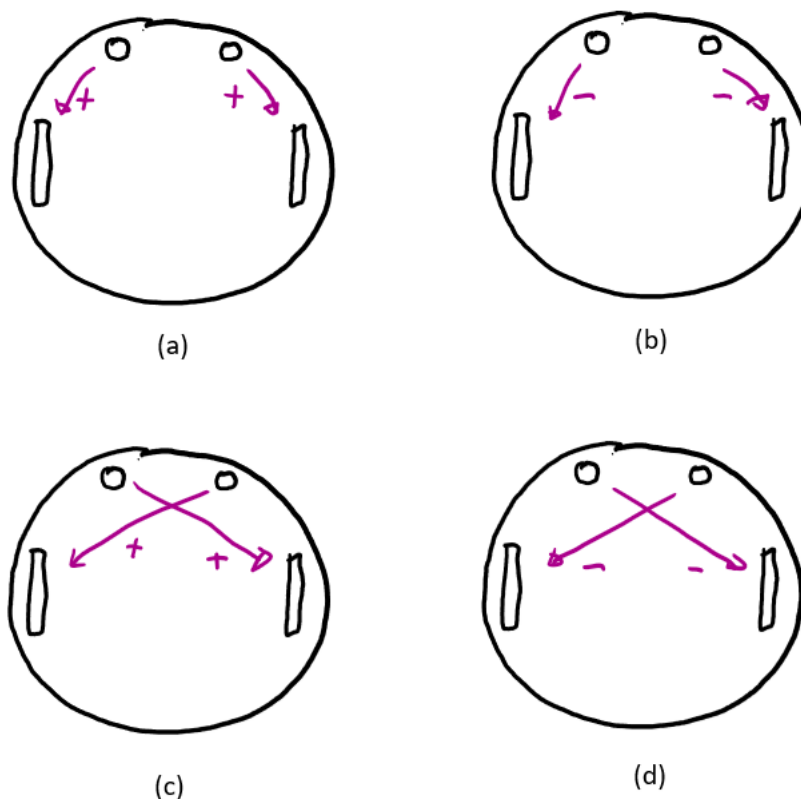

Figure 2: Four configurations for a Braitenberg vehicle.
3. With respect to the light-responsive vehicle described in the video on Braitenberg vehicles, (Section 3.1), in each of the figures in Figure 2, the lines represent the influence of the light (illumination of the *photoresistor*) on the motor. For example, in Figure (a), the the positive connection means that more light on the right sensor will lead to more effort to the right wheel.